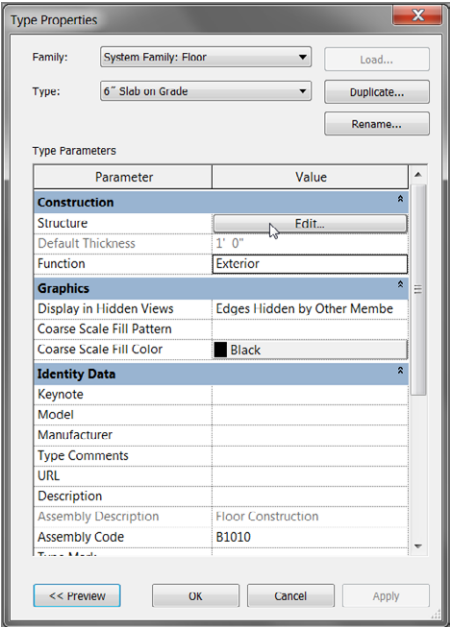

FIGURE 6.5 : Clicking the Edit button to access the structure of the floor
- 9. Change Function to Exterior, as shown in Figure 6.5.
- 10. In the Structure row, click the long Edit button (see Figure 6.5).